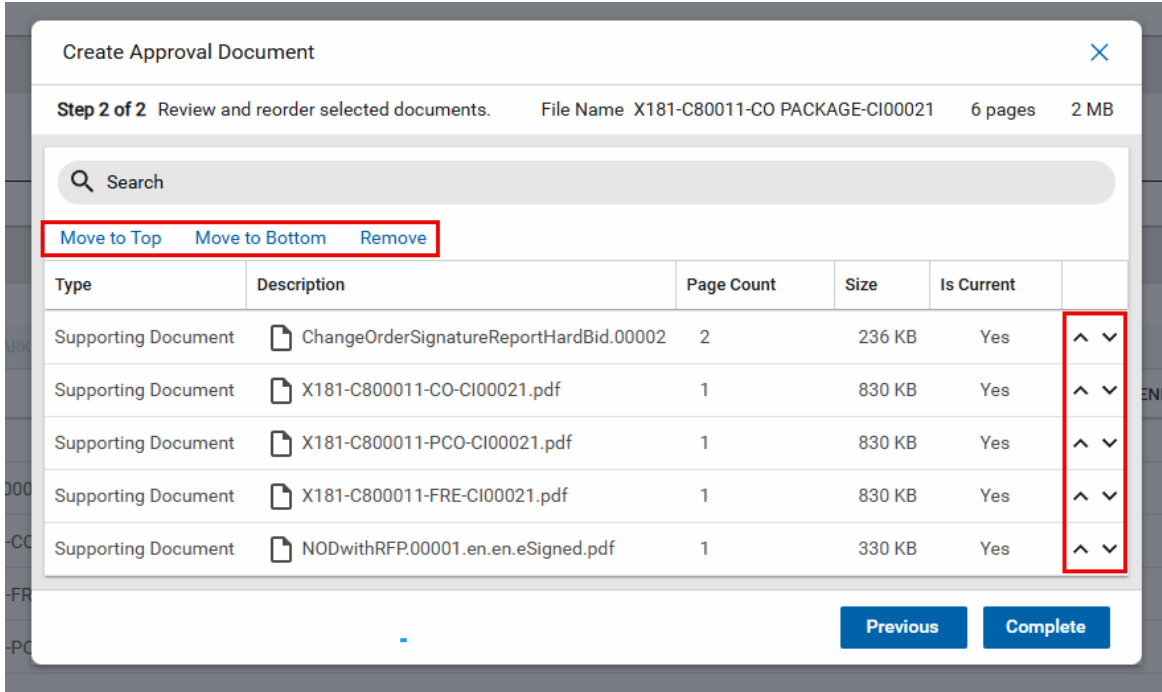
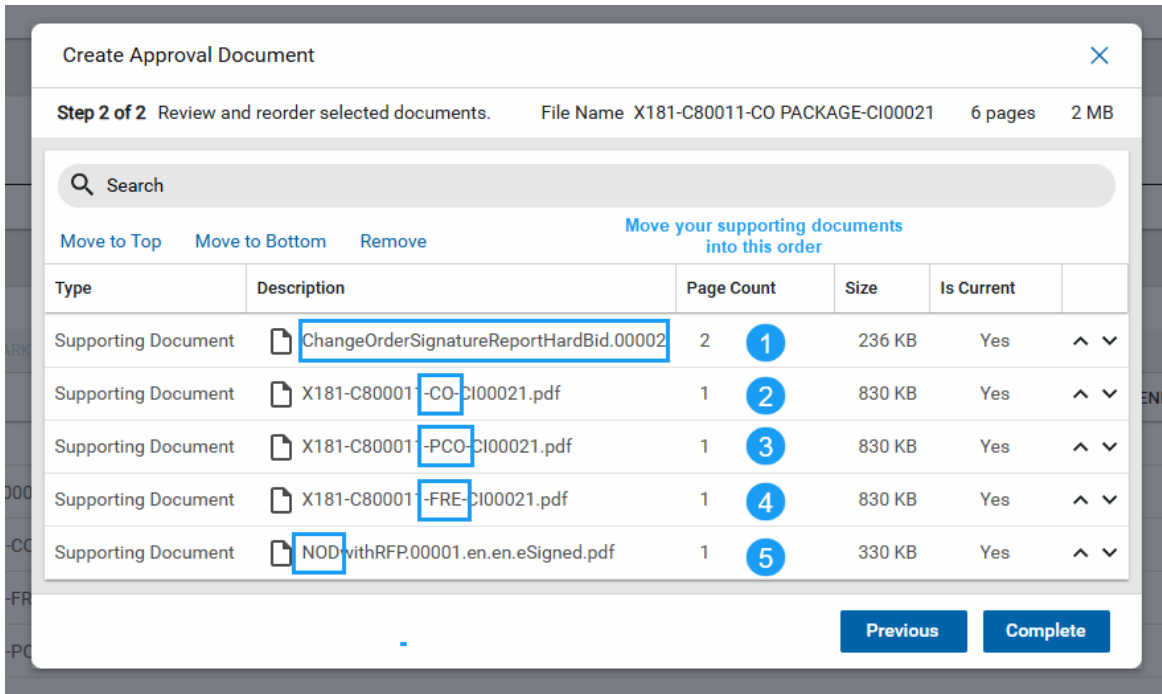

Figure 1
Figure 2
3. Step 2: In the 2nd window, use the buttons (Figure 1) to move your documents into the following order (Figure 2).